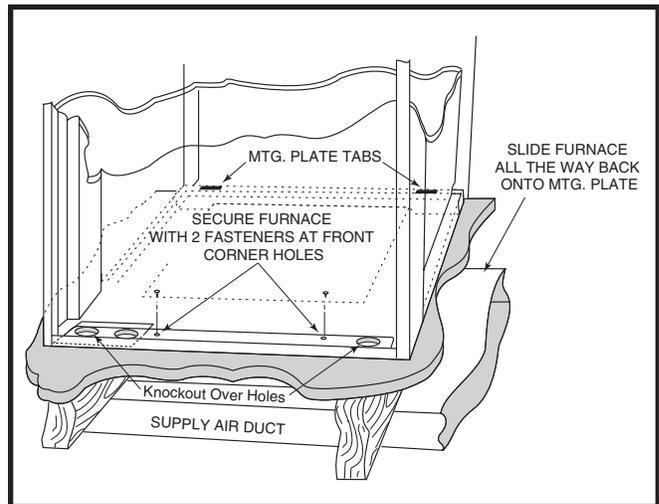
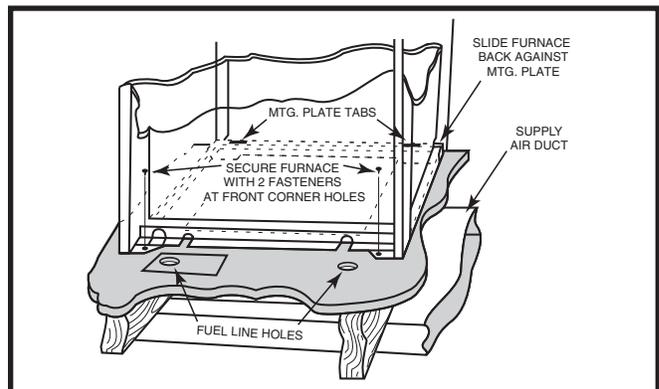

Figure 15. "A" & "B" Cabinet Furnaces
Figure 16. "A" Cabinet Furnace on Coil Cabinet
Sides and back of the furnace may be enclosed by wall framing such as in a closet or alcove. The dimensions of the room or alcove must be able to accommodate the overall size of the furnace shown in Figure 4 \(page 6\) and the installation clearances outlined on page 6. The furnace shall be appropriately connected to the supply distribution system as shown in Figure 15 \(page 9\) & Figure 16 \(page 9\).
4. Secure front with one (1) fastener at each corner. See Figure 15 & Figure 16.